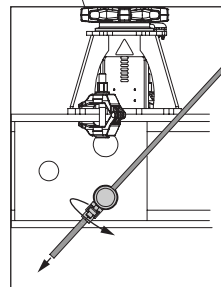

Fig. 13a
- When lowering, re-tension the bracing. For this, see the Instructions for Assembly and Use for PERI UP Flex Heavy-Duty Props HD. (Fig. 13a)